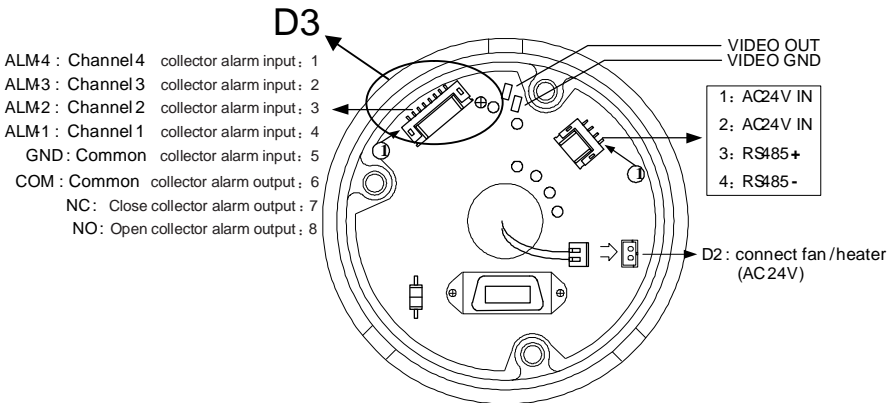
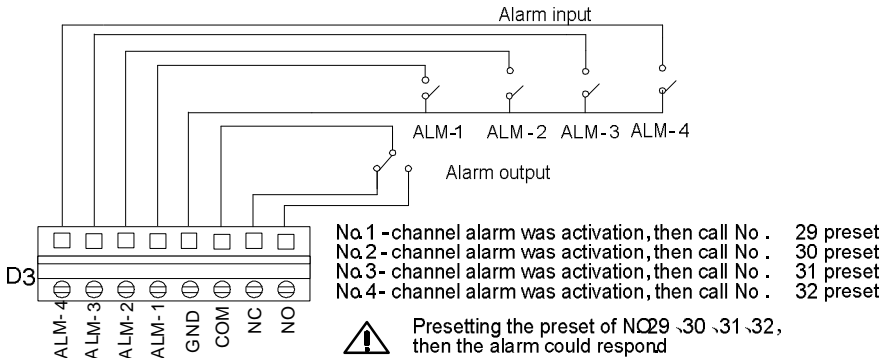

Figure 15-1
Figure 15-2
- 2) Insert attachment plug in aluminum alloy into socket D2 (Figure 15-1). According to the fig of D3 to connection. As show of fig15-1, when dome identify the alarm signal, that will set according the program immediately, then startup camera, switching the image of alarm field to main monitor. Surveillance the alarm preset, then record it in time. Fig15-2 is connection of alarm control.